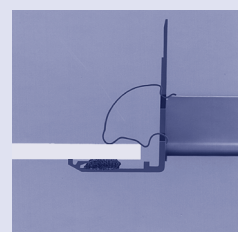

Fig. 6
- Fig. 6 The mounting is finished.